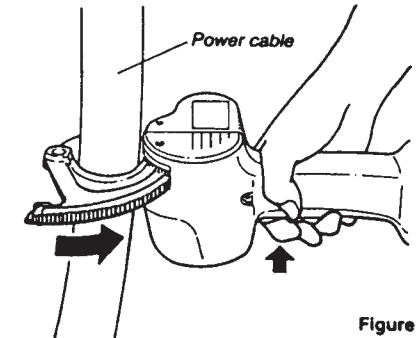

Figure 6
2. Place the cable to be cut onto the stationary blade, and close the moveable blade around the cable. Feed the moving blade by hand so that the gear teeth engage the drive mechanism of the unit. (figure 6)
3. Press the Forward switch to cut the cable. Keep the switch pressed until the cable is cut completely. (figure 6)